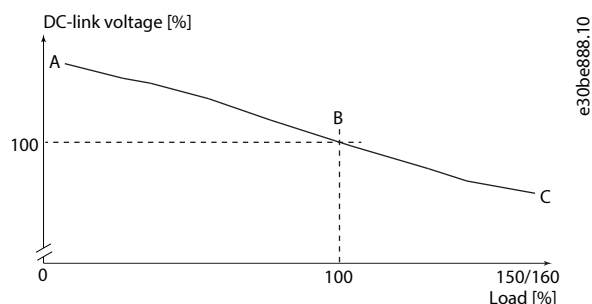

Figure 25: Insertion Loss in the Frequency Converter as a Function of Load
The AHF is designed to ensure the lowest possible insertion loss to provide full DC-link voltage in the drive. The target of this design is to ensure full DC-link voltage at nominal load, see B in Figure 25. Providing the full DC-link voltage at nominal load results in a minor voltage boost at low-load conditions and a minor voltage drop at overload conditions. The voltage boost at low load (A in Figure 25) is approximately 5%, while the voltage drop at overload (C in Figure 25) is a few percentages. Refer to Figure 25 to see the insertion loss in the drive as a function of load.
- For more information, see 4.2.1.2 Terminals for Capacitor Disconnect and Figure 25.